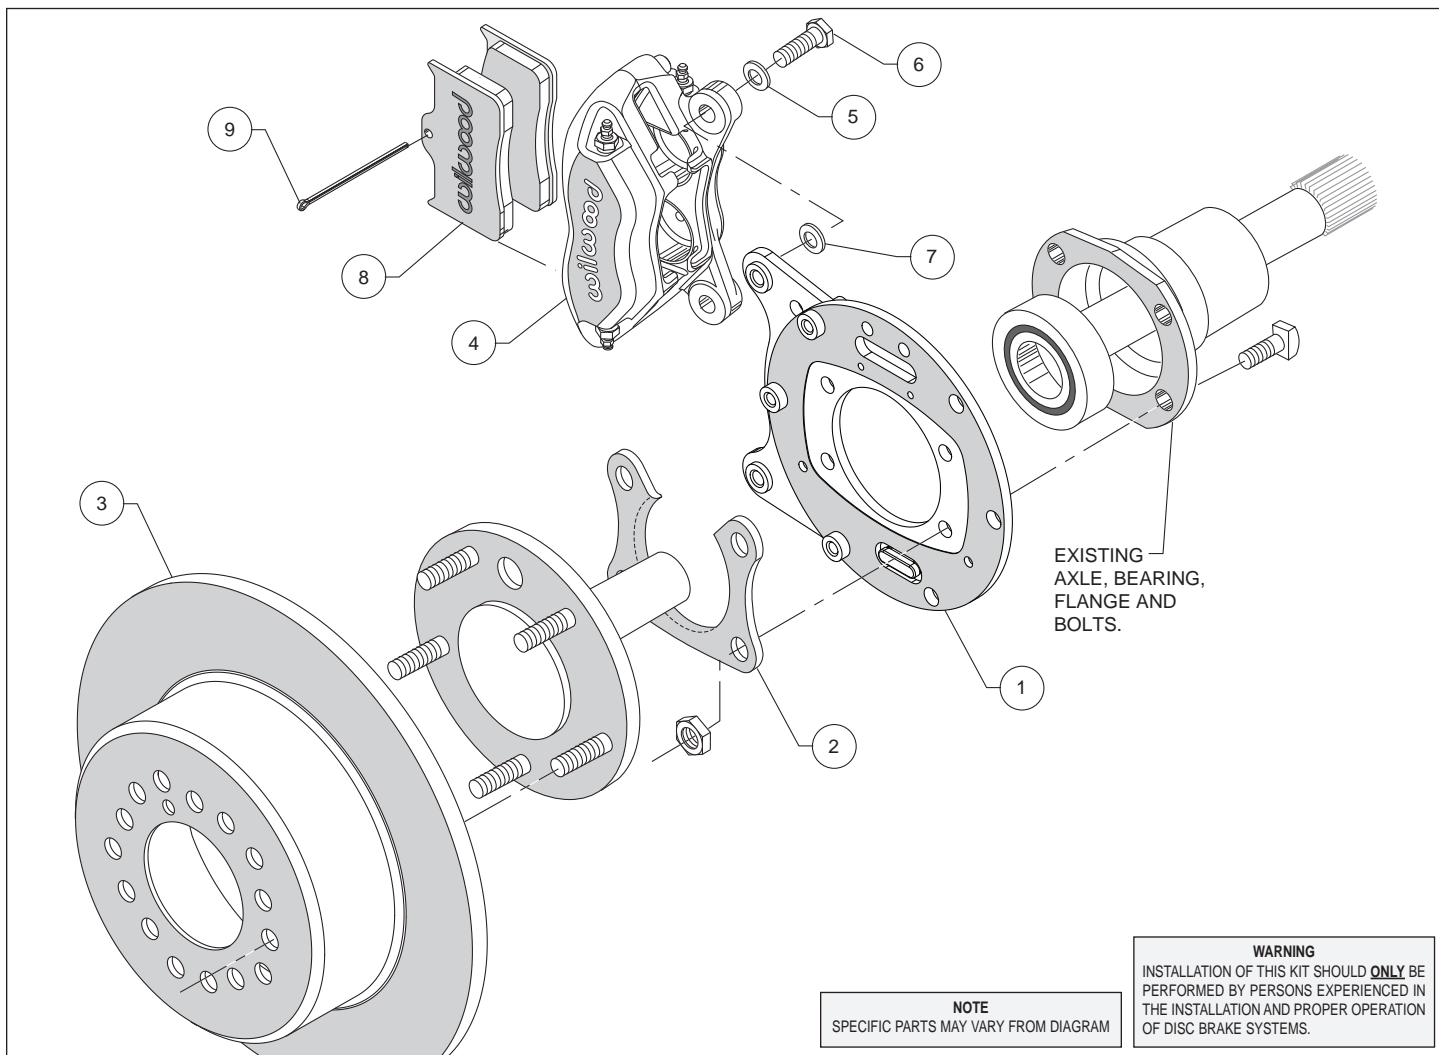

Figure 1. Typical Installation Configuration
Assembly Instructions (numbers in parenthesis refer to the parts list, and Figure 1 on the preceding pages): **CAUTION:** All mounting bolts must fully engage clinch nuts. Be sure to check that all bolts are either flush or protruding through flanged side of clinch nut after shimming, Figure 5.
- Install new bearing retainer (2) with the "U" opening facing up and the lip facing toward bearing, Figures 1 and 4, then slide the caliper mounting bracket assembly (1) onto the axle as shown in Figure 1.
- Slide the axle and caliper mounting bracket assembly into the axle housing ensuring that the backing plate is flush with the axle housing flange and the bearing retainer is flush with the backing plate. Secure bearing retainer (2) using OEM bolts and hex nuts, as shown in Figure 1. Hex nuts that retain the caliper mounting bracket assembly (1) should be on the wheel side of the bracket, Figure 1. Apply red *Loctite*® 271 to the stock bolt threads and torque to manufacturer's specifications. Make sure the heads of the caliper mounting bracket assembly (1) insert nuts are FACING OUTWARD TOWARDS THE WHEEL.
- Align the correct hole pattern in the rotor/hat (3) with the stud pattern on the axle flange and slide into place, Figure 1. **NOTE:** The rotor/hat must fit flush against the axle flange or excessive rotor run out may result. Install three lug nuts (finger tight) to keep the rotor/hat assembly in place while continuing with the installation. **NOTE:** Some OEM and after market axles come with stud sizes larger than 0.50" diameter. Verify stud size and have a qualified machine shop drill the bolt circle of the hat/rotor to the correct stud size, if necessary.
- **NOTE:** Please reference the caution statement at the beginning of the assembly instructions. Mount the caliper (4) onto the caliper mounting bracket (1) using bolts (6) and washers (5), as shown in Figure 1. Initially place two .035" thick shims (7) on each bolt between the caliper and the bracket. Temporarily tighten the mounting bolts and view the rotor (3) through the top opening of the caliper. The rotor should be centered in the caliper. If not, adjust by adding or subtracting shims between the bracket and the caliper. Always use the same amount of shims on each of the two mounting bolts. **NOTE:** The end of each bolt must be flush with or slightly protruding